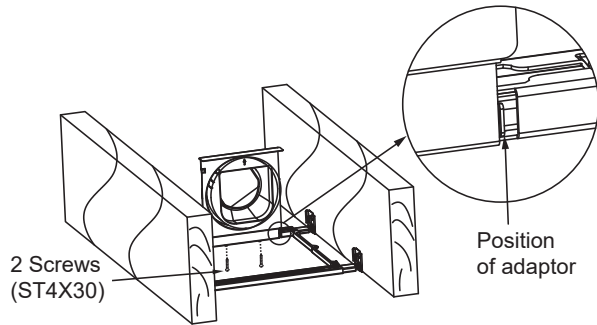

Fig. 4
- Place the adaptor on the bracket assembly as indicated and install it by using 2 self-tapping screws (ST4X30). See Fig. 4